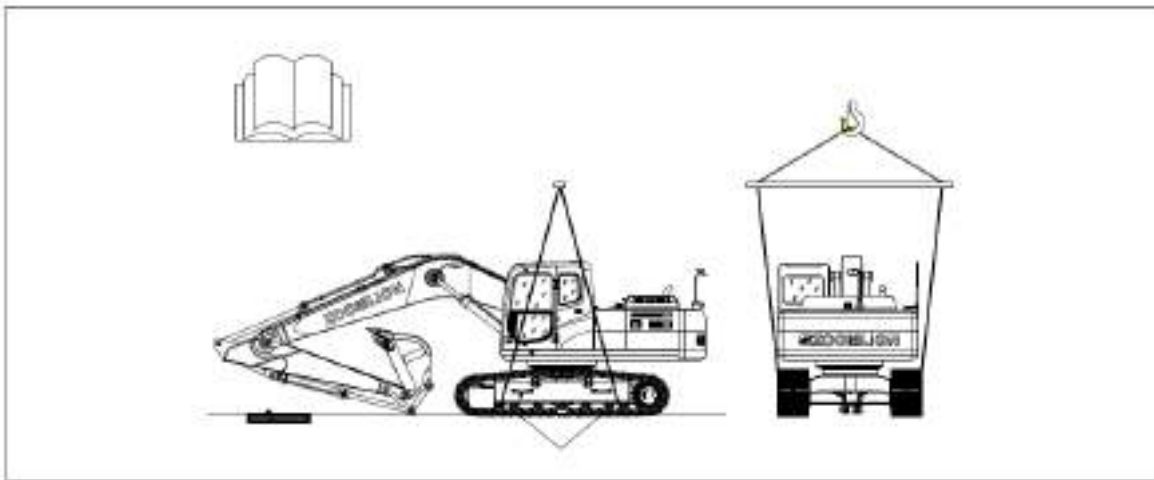

Figure 1-3 Whole machine lifting figure
(2) Whole machine lifting figures, as shown in Figure 1-3.